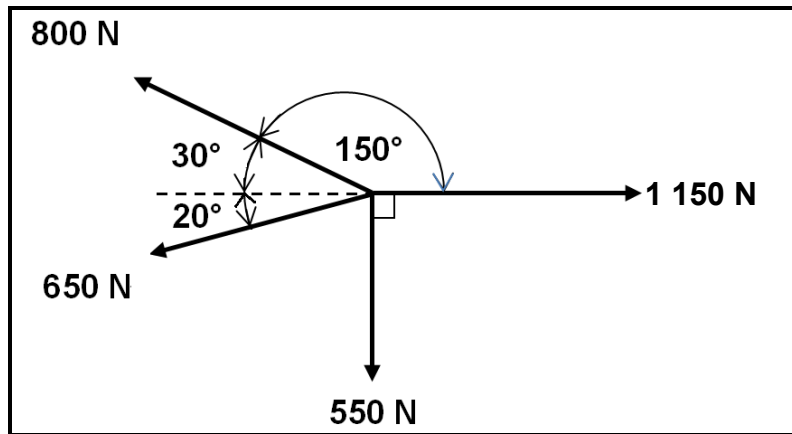

FIGURE 8.1
8.1 FIGURE 8.1 below shows a system of forces with four coplanar forces acting on the same point. Calculate the magnitude and direction of the **equilibrant** of this system of forces.